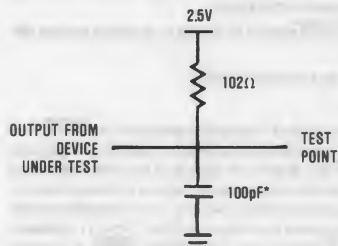

FIGURE 7.
3. All A.C. parameters tested as per test circuits in Figures 7–9. Input rise and fall times are driven at 1ns/V.